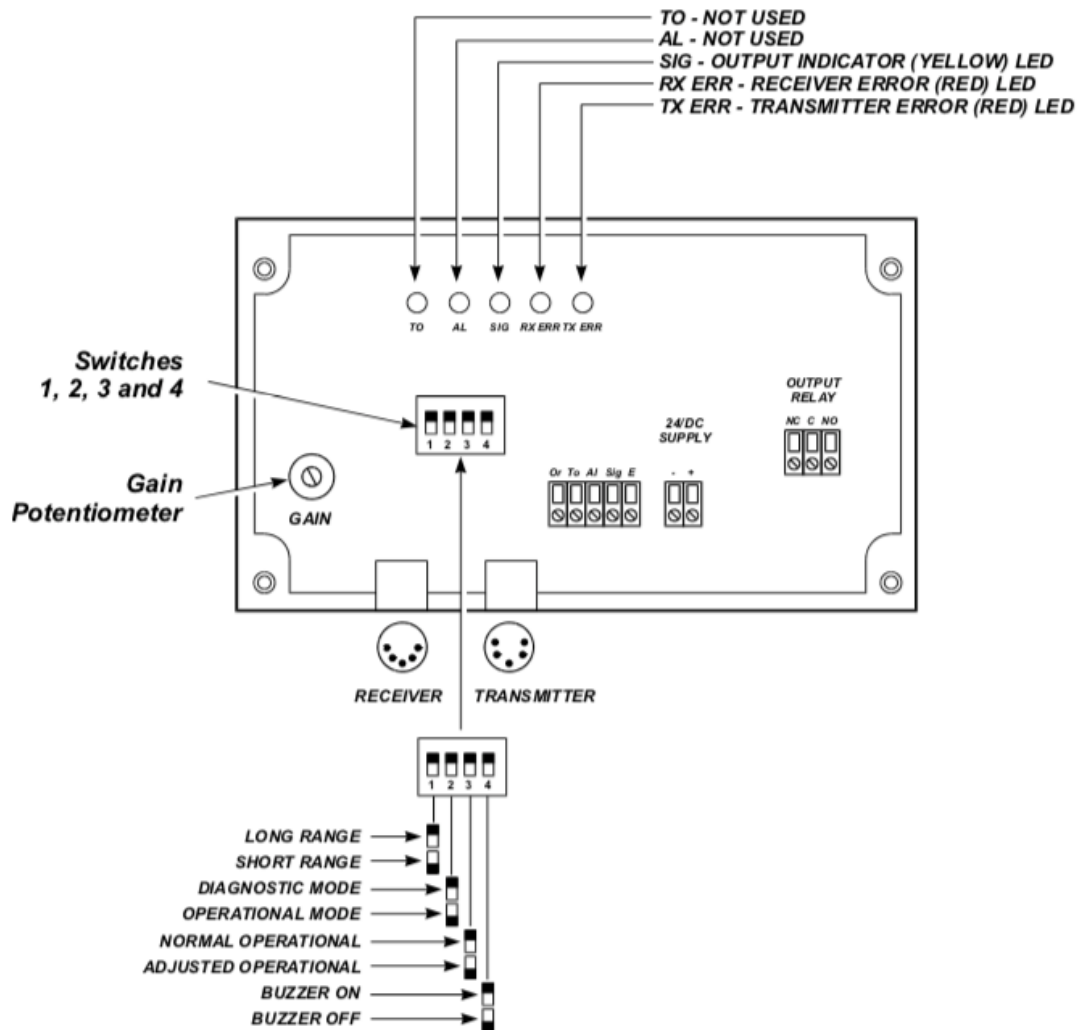

Figure 65: Safety Light Curtain Control Box with lid removed
7. Ensure that Switch 2 (sw2) (Figure 65) is set to **Off** (Operation Mode).
11. Slowly adjust the gain potentiometer (Figure 65) clockwise (to maximum) until the transmitter and receiver can sense each other, for example, the receiver can detect the beam sent from the transmitter.
Switch *sw2* **On** (Diagnostic mode). After approximately 15 seconds the *RX ERR* and *TX ERR* LEDs (Figure 65) will indicate if there is a faulty beam: